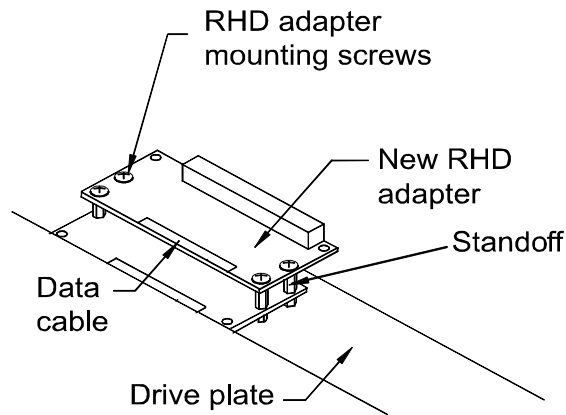

Fig. 4: New RHD adapter
37. Install three or four standoffs and washers replacing the adapter mounting screws. (Fig. 4)
39. Install the new RHD adapter with three or four 6-32x1/4 screws using the mounting holes closest to the flat ribbon cable. (Fig. 4)